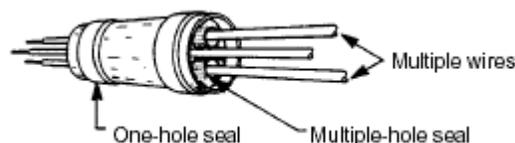

Figure 20-18 Multiple Wires
4. Insert one of the multiple wires through each hole of the multiple-hole seal, and slide the sealing sleeve back over the multiple wires as shown in Figure 20-18.